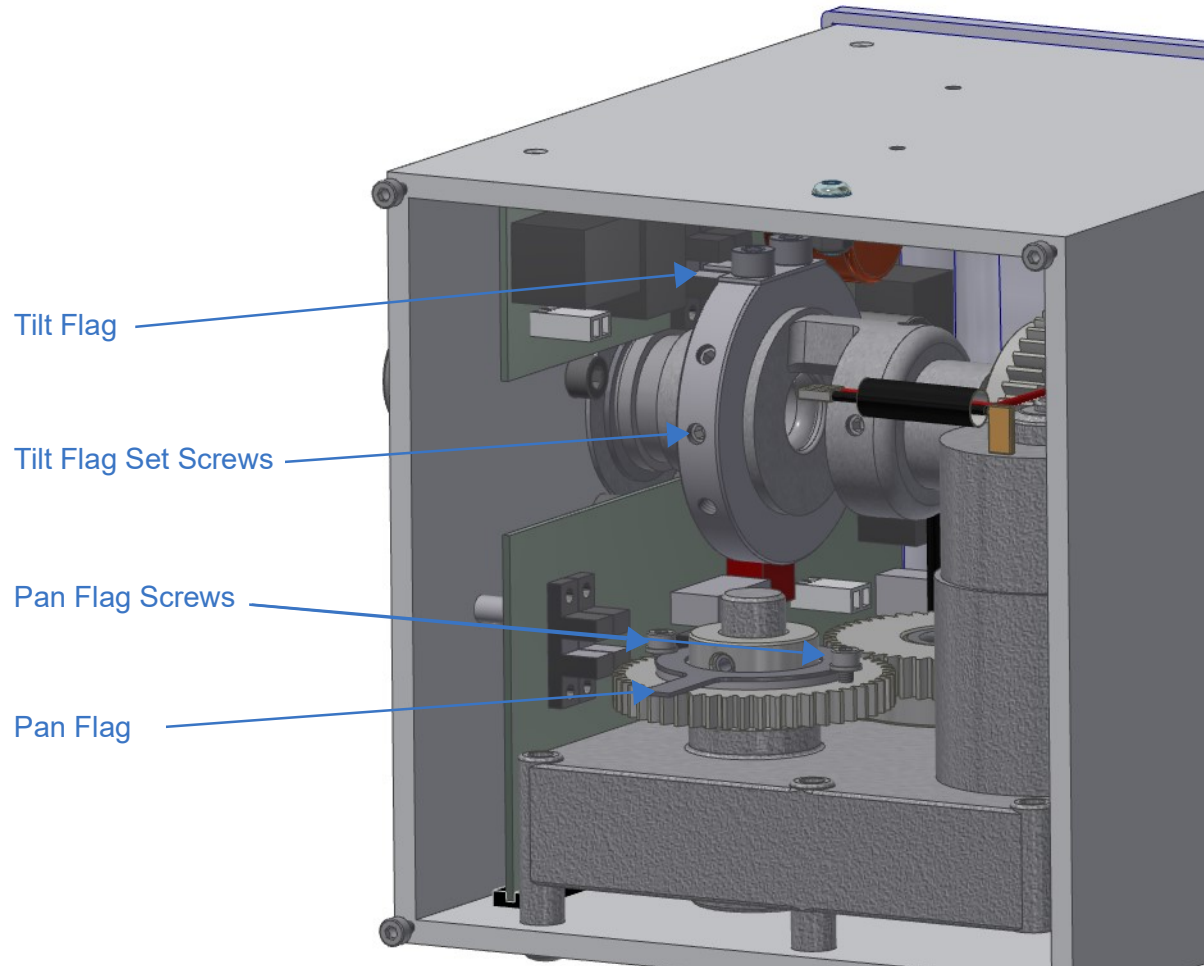

Figure 7-3 RCP Flags (RCP cover removed)
3. Remove the RCP cover to access the flags. The flags are attached to the timing rings on the horizontal and vertical shaft gears (Figure 7-3). The tilt timing ring has two set screws that must be loosened. The pan timing ring has two cap screws that must be loosened. It may be necessary to loosen one in each, then pan and tilt the unit to access the others. Note: The flags have sharp edges which may cause cuts.